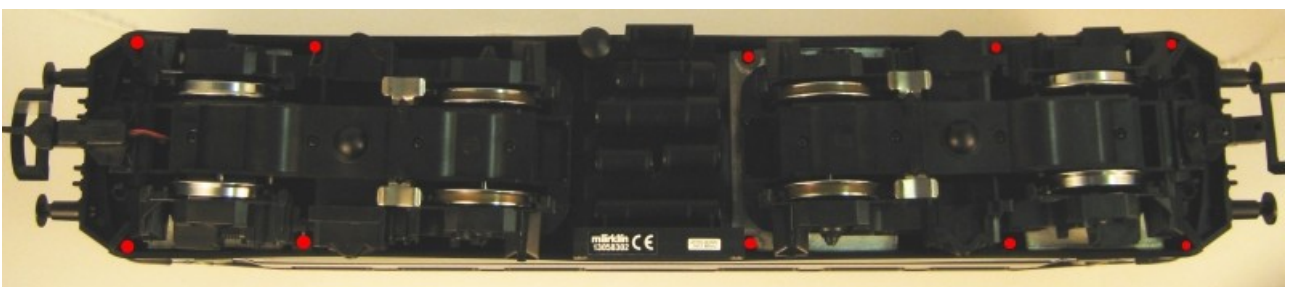

Fig. 4: Open locomotive housing
- Open the locomotive by removing the 10 marked screws in the underbody (Fig. 4).